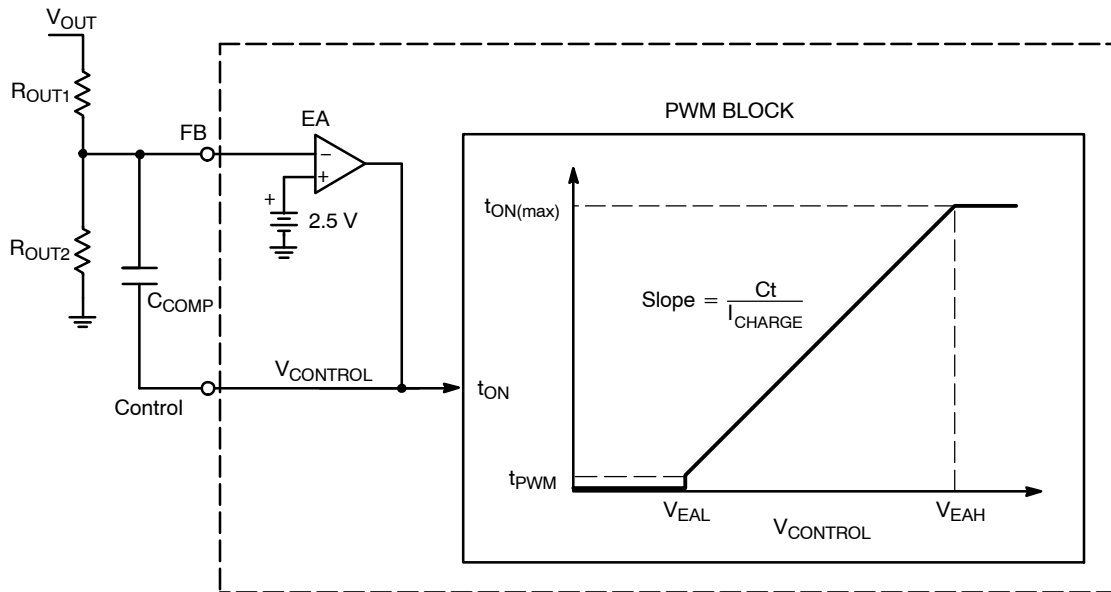

Figure 25. Error Amplifier and On Time Regulation Circuits
The NCP1606 is configured to regulate the boost output voltage based on its built in error amplifier (EA). The error amplifier’s negative terminal is pinned out to FB, the positive terminal is tied to a  $2.5\text{ V} \pm 1.6\%$  reference, and the output is pinned out to Control (Figure 25).